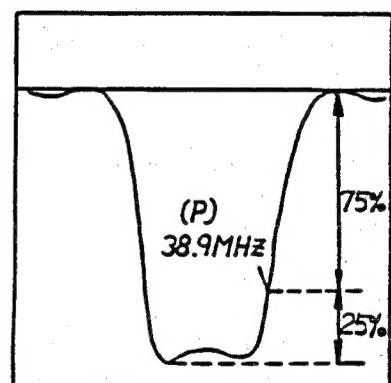

Fig. 5
8. Adjust L207 so that P is 25%. (Refer to Fig.5)